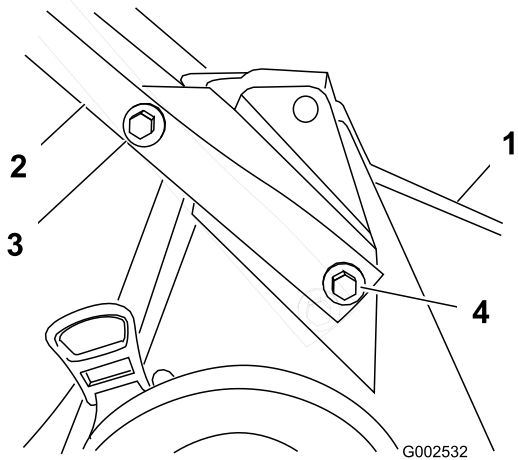

Figure 3
1. Mount the handle to the mower housing with 2 bolts (5/16 x 7/8 inch), 2 bolts(5/16 x 1-1/2 inches), 4 washers, and 4 locknuts (Figure 3).